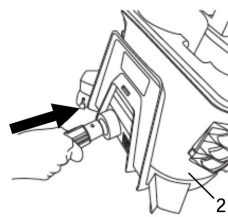

Fig. 5
8. Insert the other end of the air hose into the hose connector located in the back of the power unit (#2) and twist slightly to ensure a snug fit (Fig. 5).